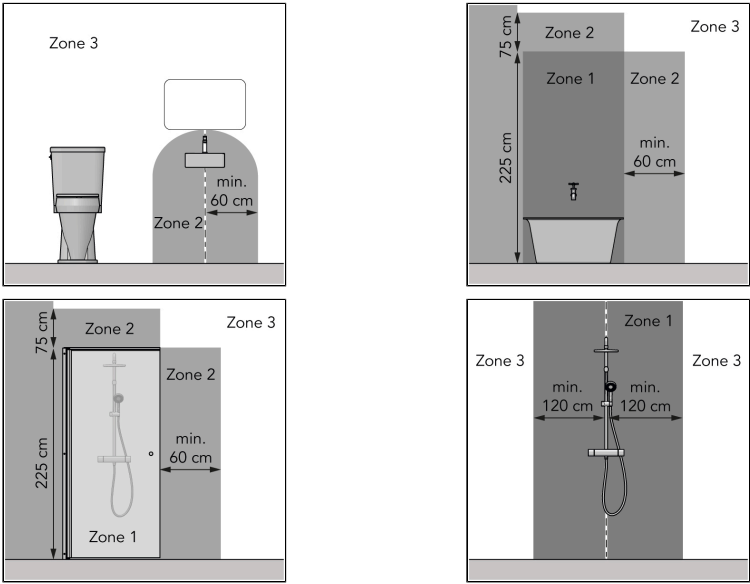

Figure 19.
- in zone 3 of a toilet room or bathroom with a bath, shower with screen or shower without screen, see Figure 19;